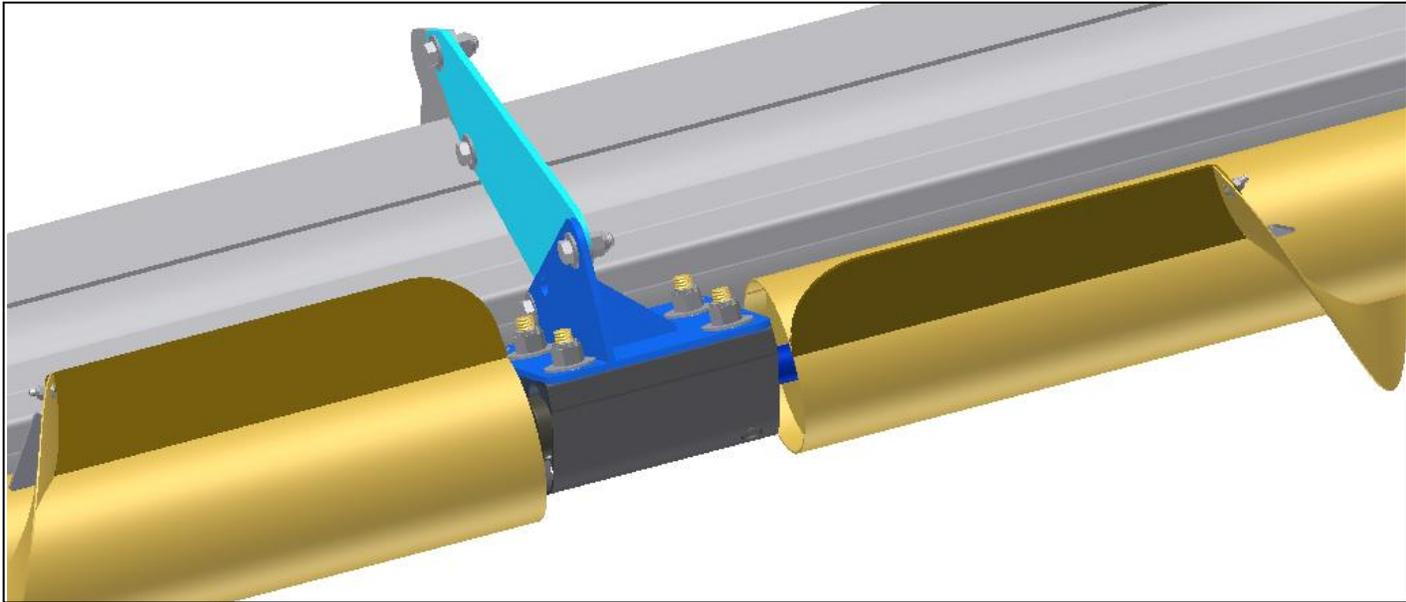

FIGURE 4 CENTER MOUNT FINISHED VIEW MACDON D50 KIT'S # 405865 AND 405866
| Figure 4 Center mount finished view MacDon D50 KIT's # 405865 and 405866..... | 17 |
2. Bolt on the center mount see Figure 4 Center mount finished view MacDon D50 KIT's # 405865 and 405866. Install the sky blue upper mount, then bolt the sea blue lower mount that holds the bearings.